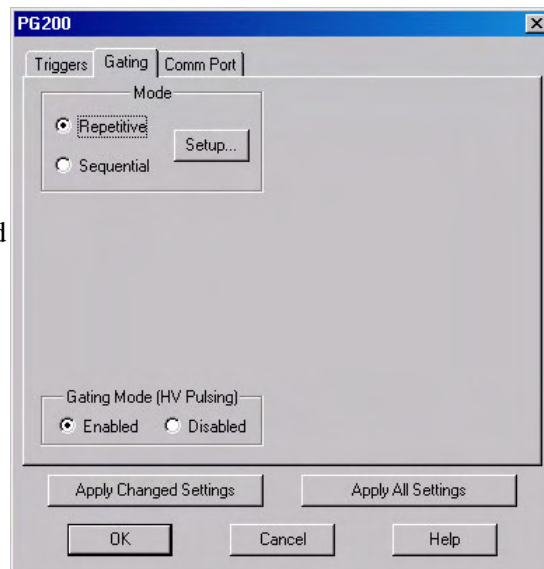

Figure 123. PG200 Gating tab page
4. Click on the **Gating** tab (Figure 123).